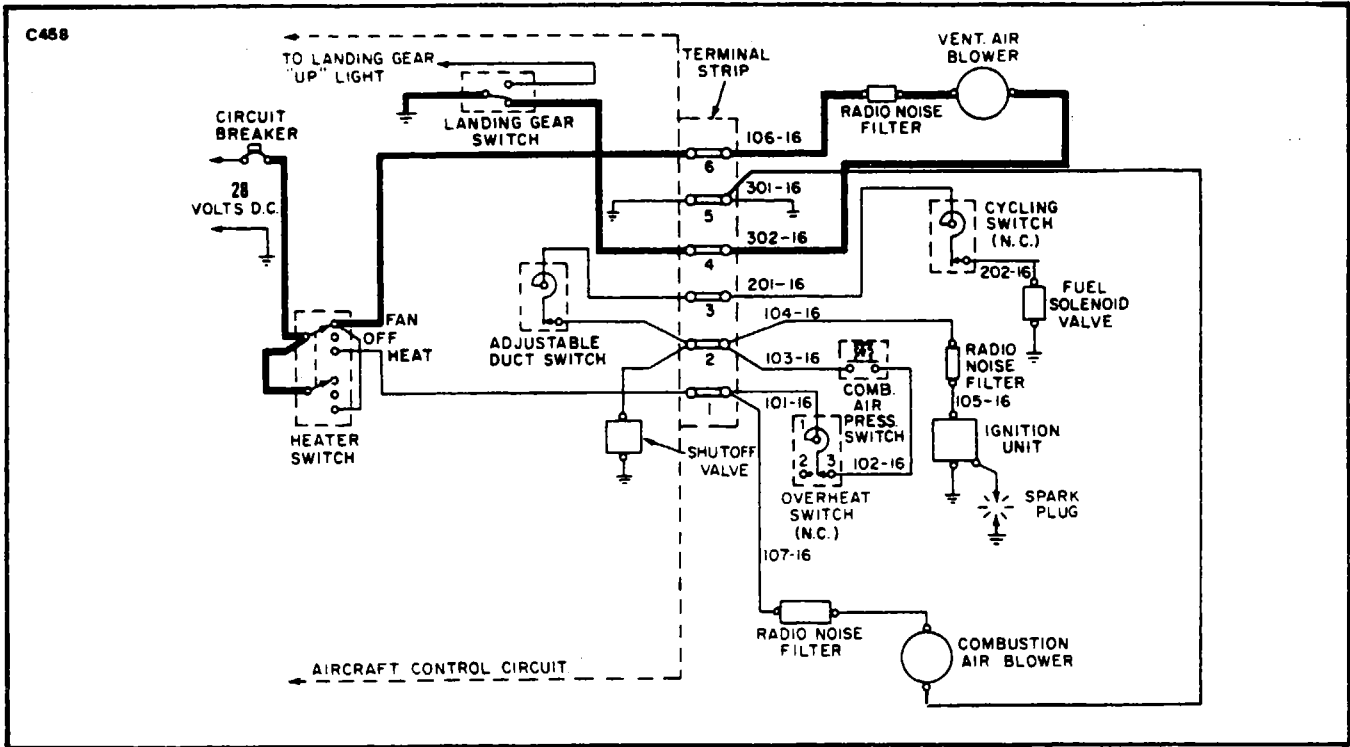

Figure 13-13. Primary Power Circuit, 39D59 Heater System No. 1
a. With the HEATER SWITCH in the FAN position, electrical continuity (24-volts nominal) should be present at the following locations: (Refer to Figures 13-13, 13-14 or 13-15.)